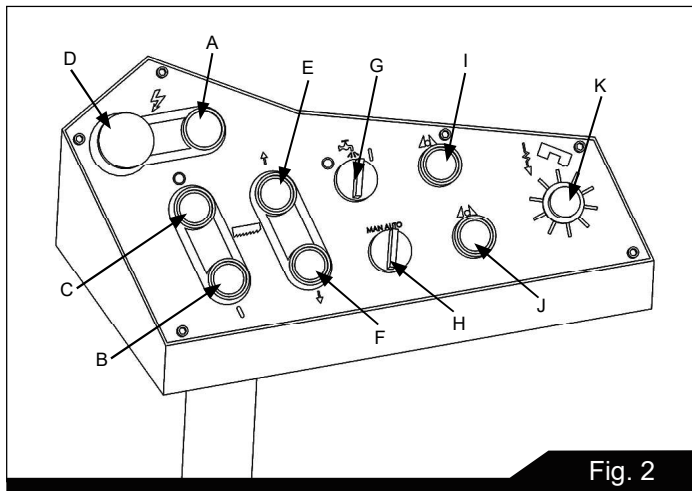

Fig. 2
Refer to Figure 2.
2. Turn on hydraulic valve (F, Figure 2).
3. Turn cutting pressure control valve (E, Figure 2) counterclockwise until it stops.
6. Turn the machine on adjust coolant flow by turning knob (G) Fig. 2.
7. Turn the feed rate control (K) Fig 2, counterclockwise until the saw blade begins to lower the desired rate of speed.